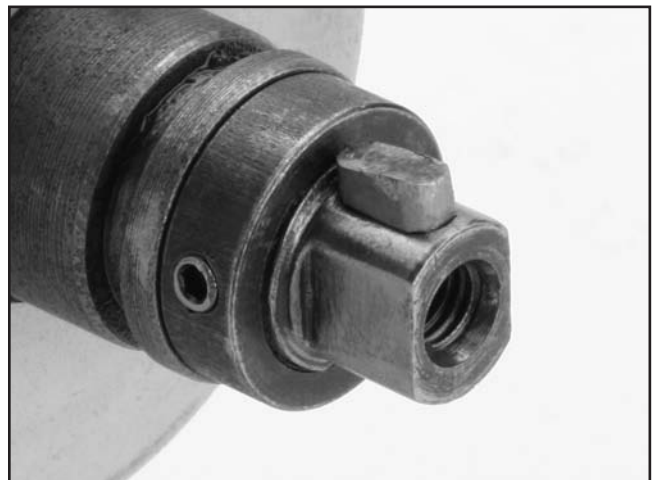

Figure 4. Key placement.
2. Insert the key into the keyway (see **Figure 4**).